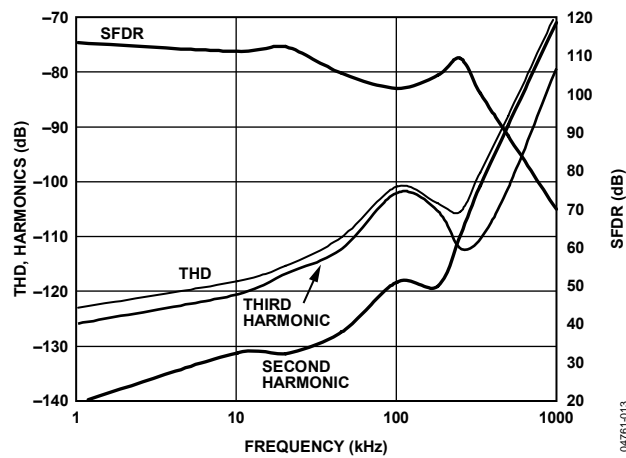

Figure 13. THD, Harmonics, and SFDR vs. Frequency
- The driver needs to have a THD performance suitable to that of the AD7641. Figure 13 gives the THD vs. frequency that the driver should exceed.